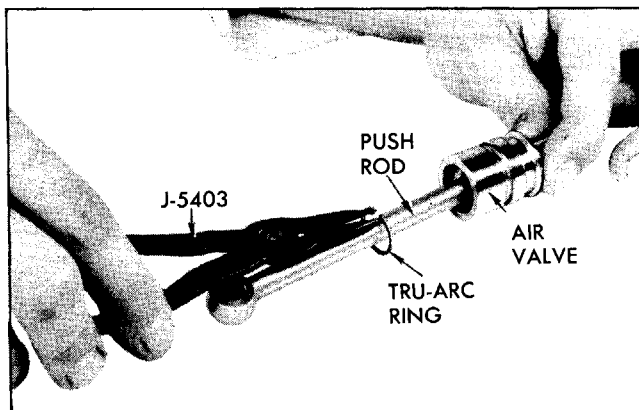

Fig. 5-54 Removing or Replacing Push Rod Snap Ring
5. It is not necessary to remove the push rod from air valve unless it is noisy or excessively loose. If necessary, follow steps 5 and 6. Unseat Truarc snap ring (using special pliers J-5403) that holds push rod in place (Fig. 5-54). (Pinch snap ring to release.)